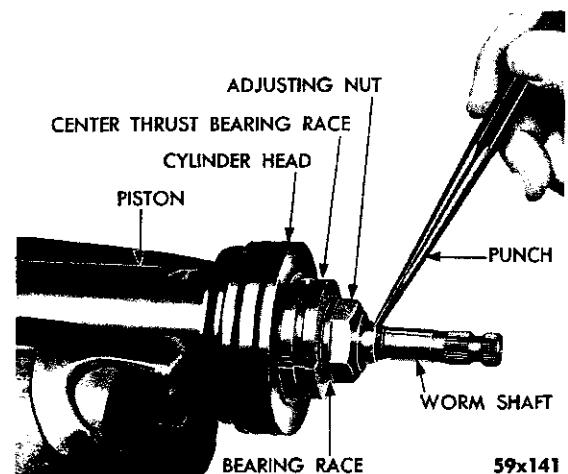

Fig. 45—Staking the Worm Shaft Bearing Adjusting Nut
(6) Stake the upper part of the worm shaft adjusting nut into the knurled area of the shaft as follows:
a. Hold a 1/4 inch flat end punch on the center line of the worm shaft and perpendicular to the worm shaft and at a slight angle to the nut flange (Fig. 45).